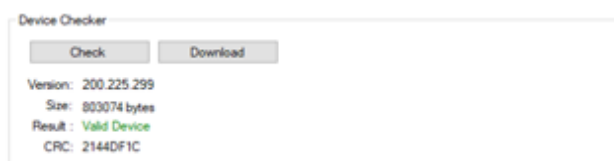
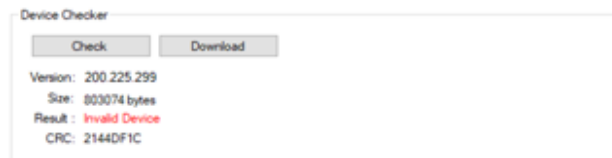

Figure 36 – Nidus Valid Software
Figure 37 – Nidus Invalid Software
9. Instead of download the Nidus software, the user can verify the Nidus software integrity and authenticity status. This action show if the software running on Nidus is valid or if it is adulterated, by validating the respective CRC32 and version (Figure 36 and Figure 37).